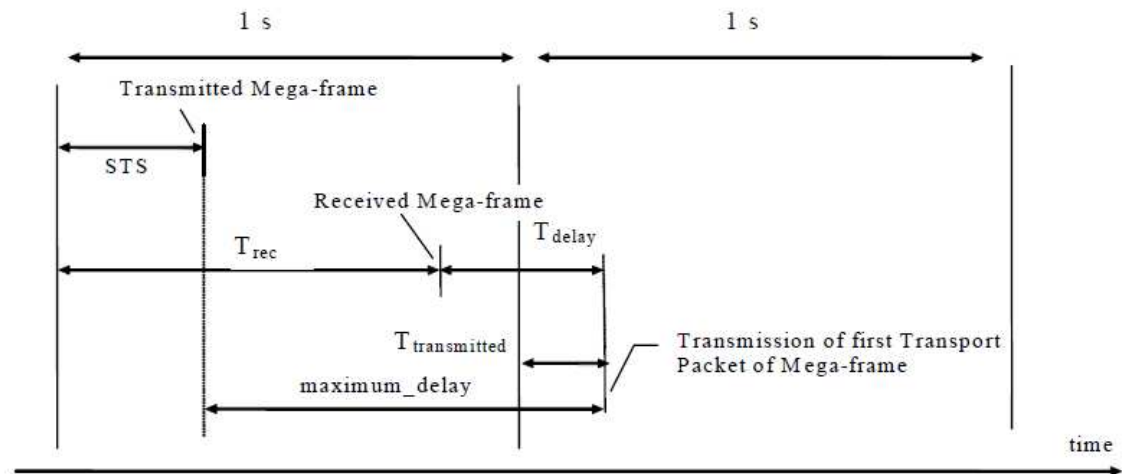

Figure 1 Functional description of the SFN synchronization⁶
- **SFN Delay**: time to receive the mega-frame, see Figure 1: